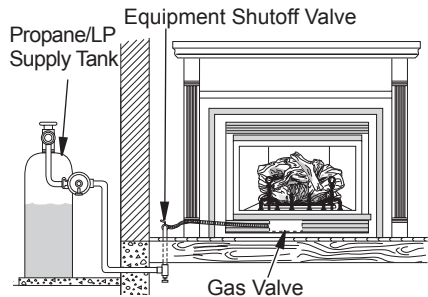
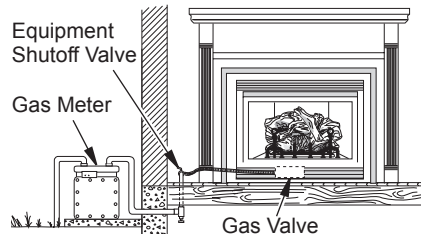

Figure 34 - Checking Gas Joints for Propane/LP Gas Fireplace
Figure 35 - Checking Gas Joints for Natural Gas Fireplace
3. Check all joints from propane/LP supply tank or gas meter to equipment shutoff valve (see Figure 34 or Figure 35). Apply noncorrosive leak detection fluid to all joints. Bubbles forming show a leak. Correct all leaks at once.
4. Check all joints from equipment shutoff valve to gas valve (see Figure 34 or 35 on page 23). Apply noncorrosive leak detection fluid to all joints. Bubbles forming show a leak. Correct all leaks at once.